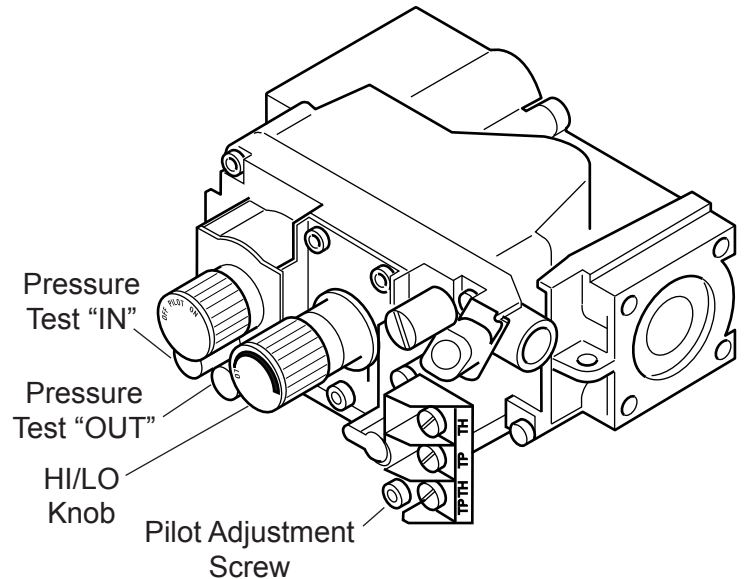

Figure 16 - Gas Pressure Check at Gas Valve
5. To check gas pressures at valve, turn captured screw counter clockwise 2 or 3 turns and then place tubing to pressure gauge over test point. Turn unit to high. See *Figure 16*. After taking pressure reading, be sure and turn captured screw clockwise firmly to reseal. Do not over torque. Check test points for gas leaks with a soap and water solution or an electronic gas leak detector.